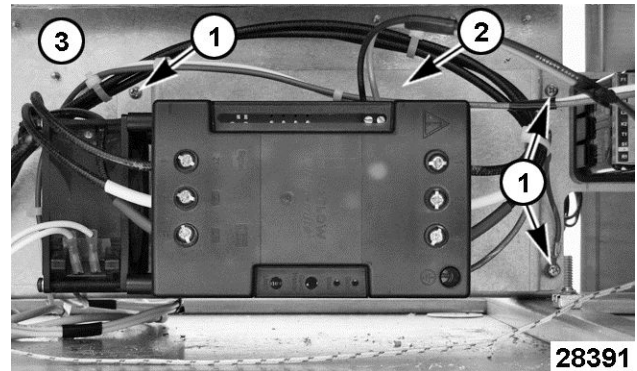

Fig. 43
2. Remove screws [1] Fig. 43 (qty. 3) securing solid state contactor mounting bracket [2] Fig. 43 to the rear of electrical panel [3] Fig. 43.